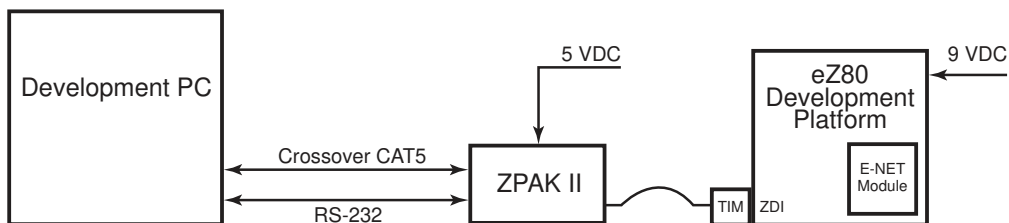

Figure 2. Hardware Setup using a Crossover Ethernet Cable (not supplied in the kit)
- ▶ **Note:** If a hub is not used, connect a crossover Ethernet cable (not supplied in the kit) from the PC to the ZPAKII unit. See Figure 2 for reference.